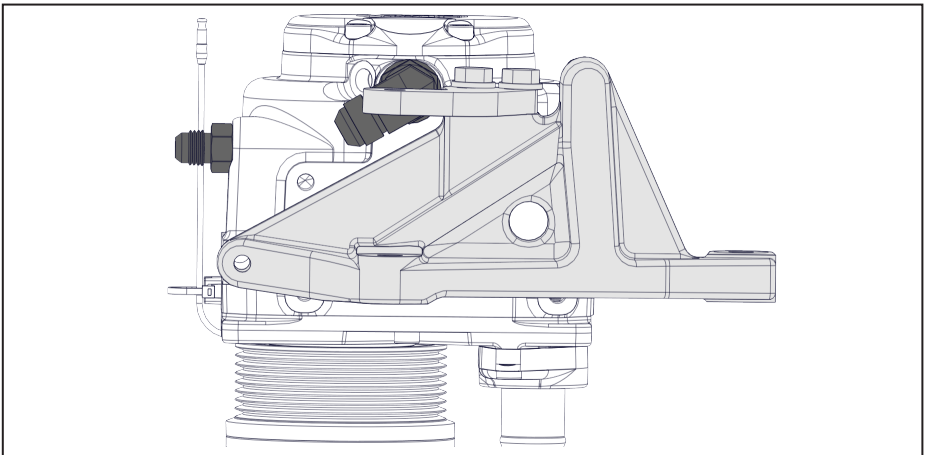

Figure 13 — Compressor discharge fitting
- Install the 45° fitting from the 1/2 in × 24 1/2 in discharge hose onto the compressor discharge fitting. Orient the hose in the same direction as the #6 JIC oil fitting on the side of the compressor and tighten the hose securely (Figure 13).